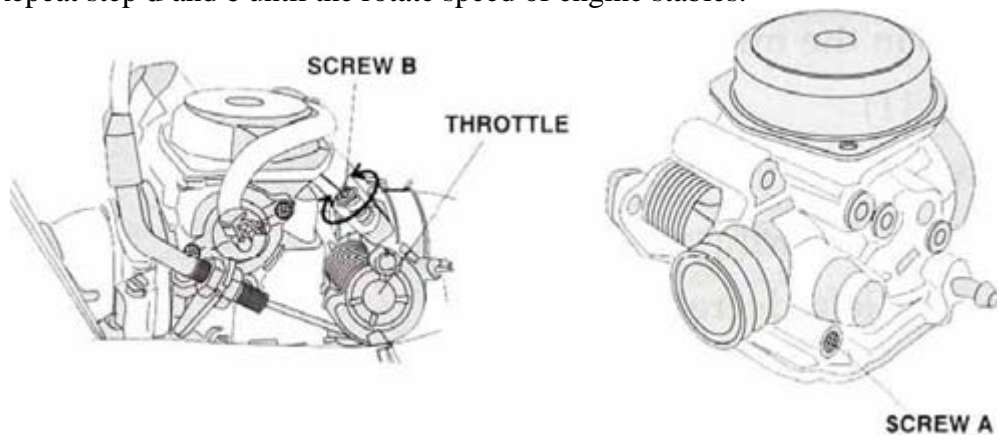

Figure 13
- Tighten the air screw gentle. Back out 2-3/8 turns counter clockwise (see Fig. 13).